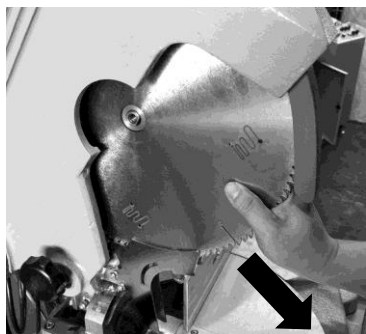

Fig 18
5. Mount or remove the blade by taking it out from the bottom part; make sure the teeth are facing in the direction shown by the arrow on the saw arm (Fig 18). After you have ended your work, mount the outer flange, R, and the left screw S, and wrench using the above mentioned wrenches.